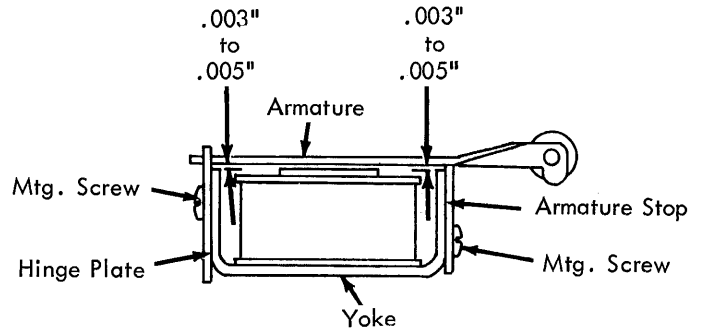

FIGURE 273. Magnet Adjustments (1 Magnet)
3. Magnet Adjustments (1 Magnet, Fig. 273) - With the red shift magnet armature energized, position the hinge plate and armature stop so that the armature clears the yoke (both inner and outer poles) by .003" to .005".